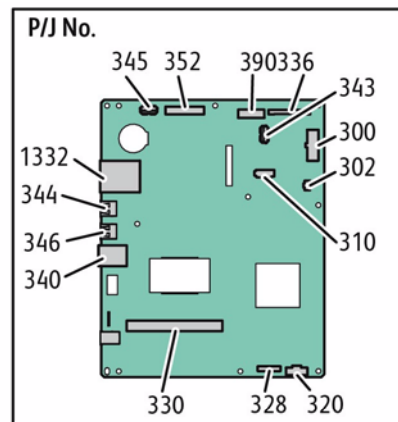

Figure 1 Unplug the IP Board Connectors
5. Referring to Figure 1, unplug all connectors from the IP Board.